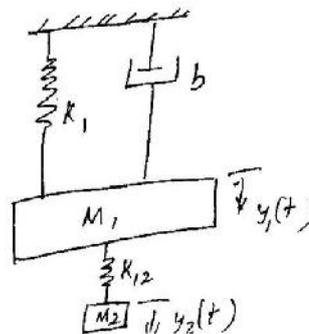

Fig. 2.
11. (a) A dynamic vibration absorber is shown in Fig. 2. This system is representative of many situations involving the vibration of machines containing unbalanced components. The parameters M_2 and K_{12} may be chosen so that the main mass M_1 does not vibrate when $F(t) = a \sin \omega_c t$